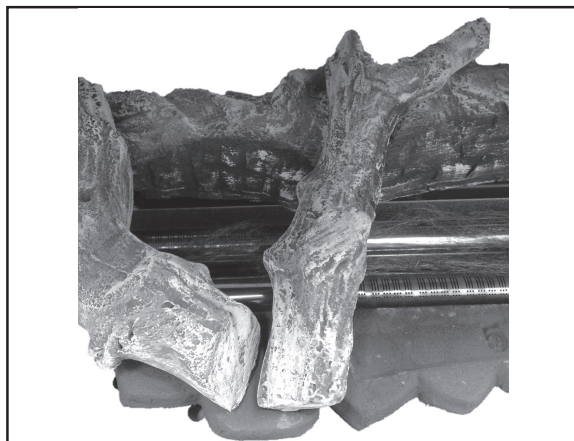

Fig. 7
7. Place log '4' to the right of log '3' so that it is resting at the front in the recess in the LHS base ceramic and to its rear on log '1', ensuring there is a gap between log '3' and log '4' as shown in fig. 7.